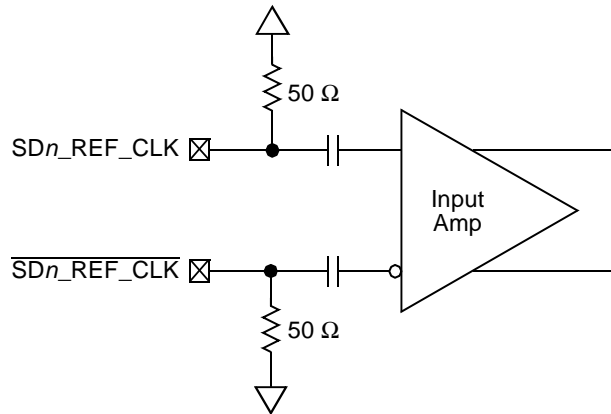

Figure 41. Receiver of SerDes Reference Clocks
Figure 41 shows a receiver reference diagram of the SerDes reference clocks.
- The $\text{SD}n_{\text{REF_CLK}}$ and $\overline{\text{SD}n_{\text{REF_CLK}}}$ are internally AC-coupled differential inputs as shown in Figure 41. Each differential clock input ($\text{SD}n_{\text{REF_CLK}}$ or $\overline{\text{SD}n_{\text{REF_CLK}}}$) has a 50- Ω termination to $\text{SGND_SRDS}n$ (xcorevss) followed by on-chip AC-coupling.